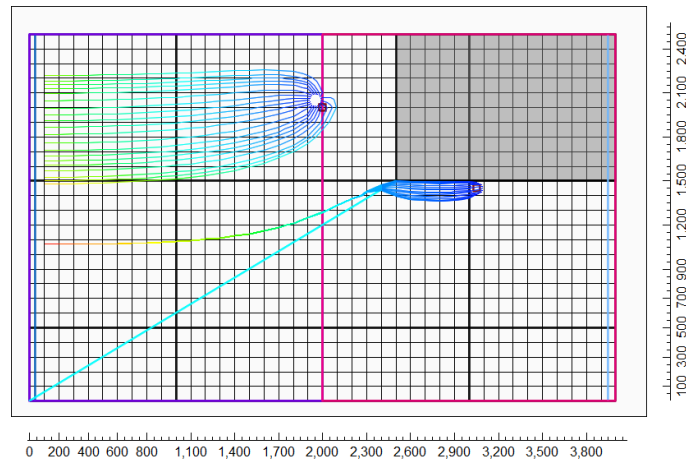

Figure 6: The pathlines observed at the two different wells.
- check pathlines - it should appear as in Figure 6 below